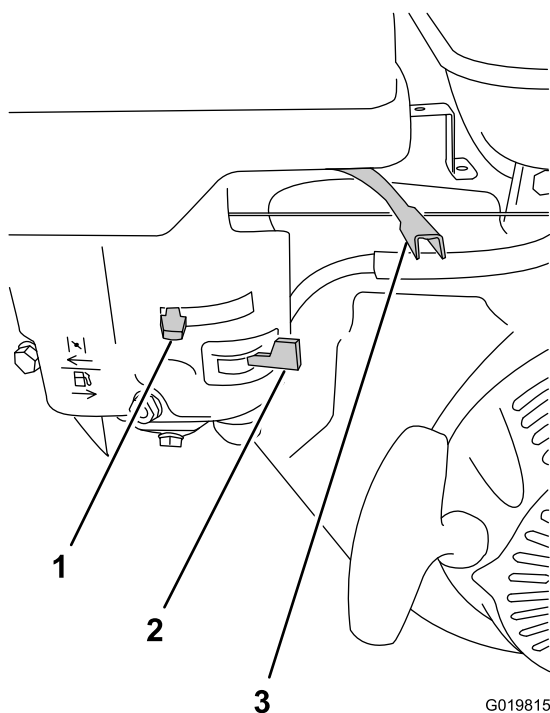

Figure 38
2. On the engine, move the throttle lever away from the Min position, 1/3 of the way toward the Max position (Figure 38); refer to Throttle Lever (page 13).
3. Move the lever of the fuel valve to the On position—all the way to the right (Figure 38); refer to Fuel Valve (page 12).
- To start a cold engine, move the choke lever to the Closed position—all the way to the left (Figure 38); refer to Choke Lever (page 13).
1. Move the throttle lever to the slow (turtle) position (Figure 38).
3. Move the fuel valve to the Off position (Figure 38) and rotate the engine On/Off switch to the Off position; refer to Engine On/Off Switch (page 13).